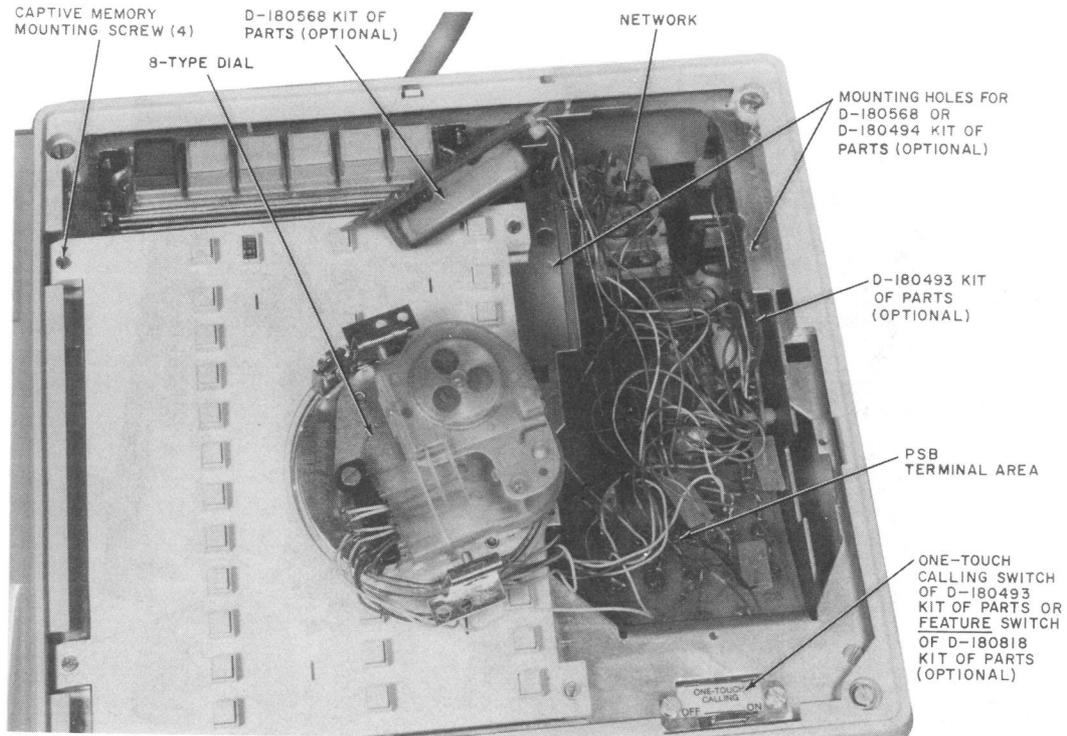

Fig. 4—872A1M Telephone Set—Dial Removed to Show Terminal Area
(2) The following are located under the faceplate, inside the set (Fig. 4 and 5):
(b) Power supply board (PSB) terminal area (Fig. 4)
(c) Network (Fig. 4)
(d) Options (Fig. 4) are as follows